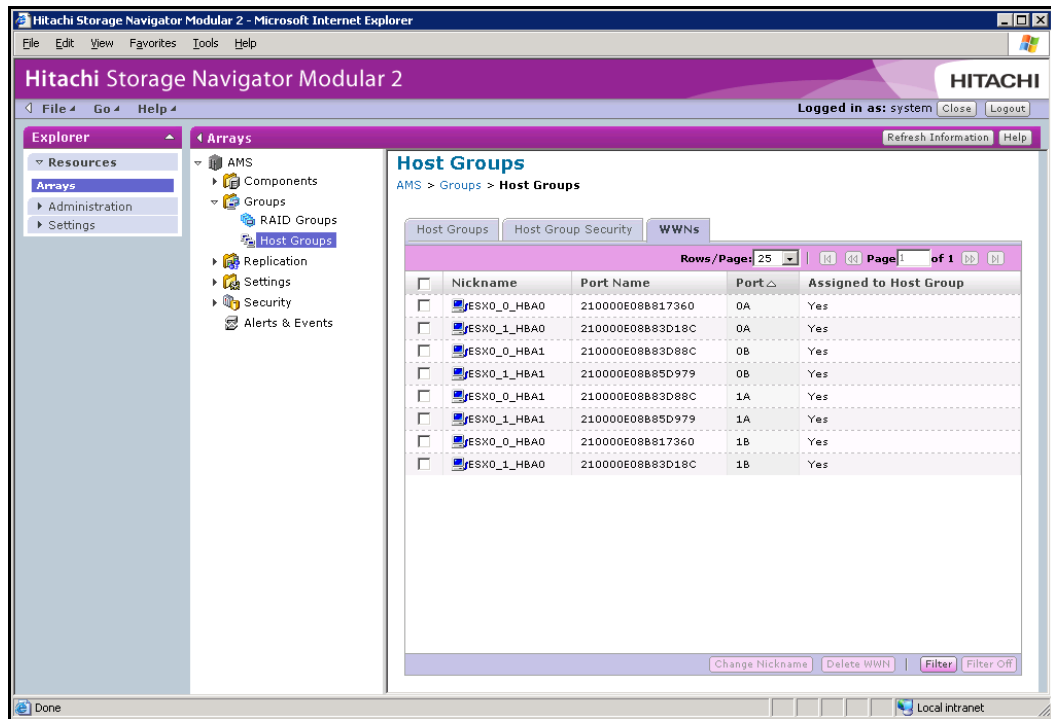

Figure 4-10: Example of WWPNS Mapped to Host Groups
- If desired, use the **WWNs** tab in the Host Groups screen to view the WWPNS mapped to host groups (Figure 4-10 on page 4-12).